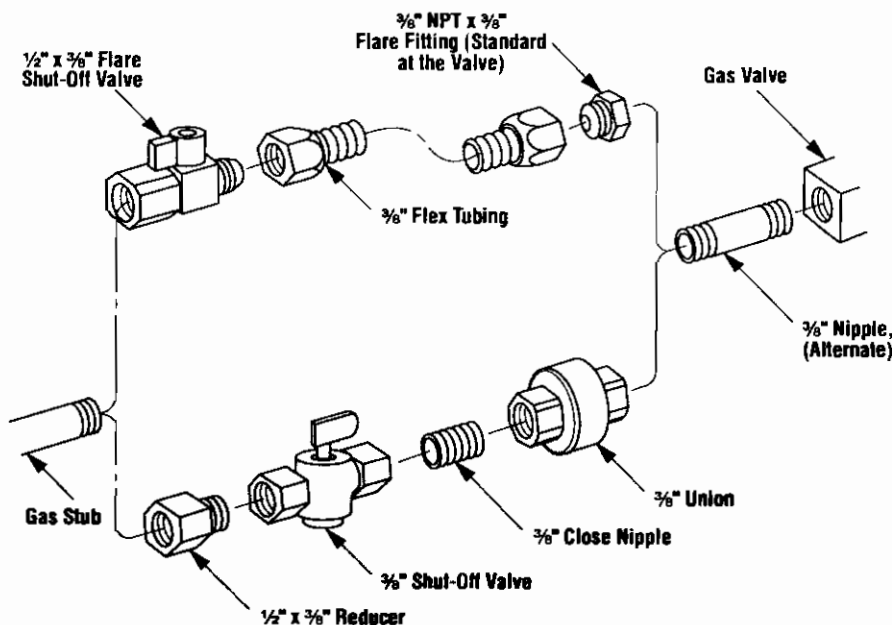

Figure 25
**Step 4. Connecting Gas Line** – Make gas line connections. All codes require a shut-off valve mounted in the supply line. Figure 25 illustrates two methods for connecting the gas supply.